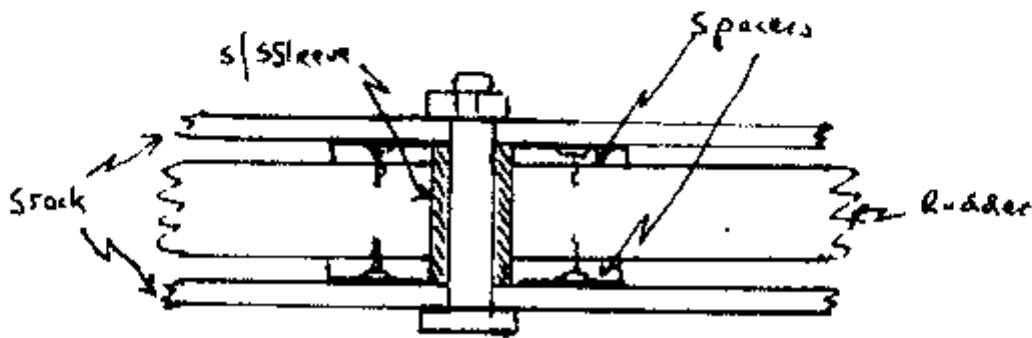

FIG 2 - Rudder Modification
- (1) I have invested in a chute and snuffer and got the lowest price from Crusader Sails of Poole. The halyard uses the sheave block provided on the mast above the forestay fitting and a cleat also provided on the mast. The tack sheet passes inside the pulpit to the anchor fair lead and then aft through two bullseye fair leads on the cabin to a cleat at the cockpit. (In a layout similar to the Genoa reefing line). The clew sheet passes through a lead block shackled to the toe rail at the appropriate stern quarter and then to additional cleats fitted port and starboard.
- (2) I have never been completely happy as regards the rigidity of the mounting of the rudder to the stock. I am trying out a modification (see Fig 2). The nylon spacers for the rudder pivot are now both bonded and screwed to the rudder. A s/s sleeve is bonded through the full run of rudder and spacers. "Slop" seems to have been eliminated.
- (3) Engine cut-out enlarged to permit the Yasaka 4 to tilt to the first notch.
- (4) Sail Savers fitted to spreaders. Main Type SA3 fit neatly with the addition of a slot to accommodate the spreader.